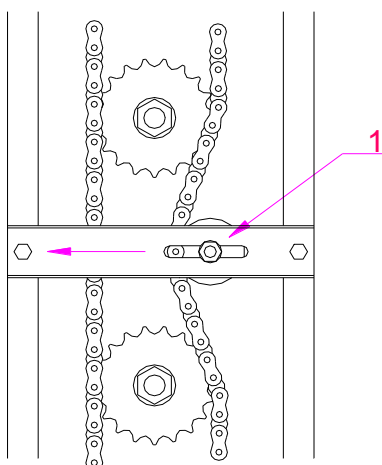

Fig. 9
- Loosen slightly screw (1) (Fig. 9) and move the tensioner to the left. Fasten the tensioner again by tightening the screw (1) once the chain is properly tautened.